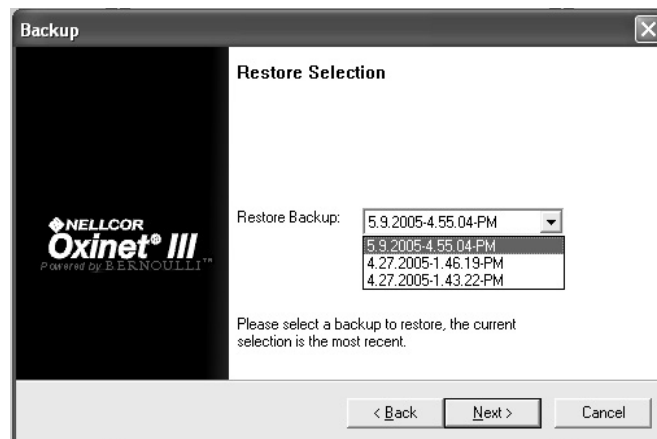
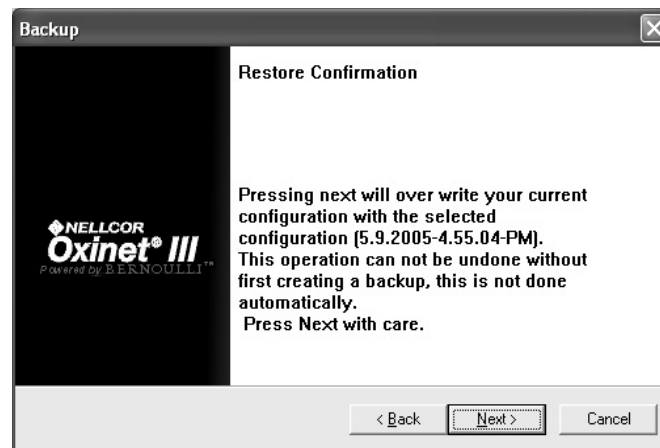

Figure 18: Restore Function —Select a Version
Figure 19: Restore Function — Confirm the Version
- 5 If you have more than one version backed up, the system asks you to select the version you want to restore; the most recent version will be the current selection. Press or click the drop-down arrow to view and select another saved version (Figure 18).
- 7 You will then be asked to confirm your version selection (Figure 19). Press or click the **Next** button to continue. Or, if you have selected the wrong version, click the **Back** button to return to the prior screen (Figure 18).